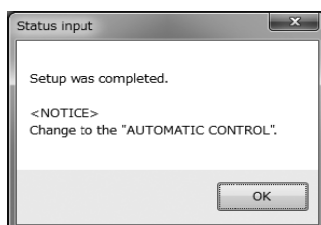

Fig.60
- ⑦ Click "OK" to change the settings to the selected values, and then click the "OK" button in the displayed message box (Fig. 60) to complete the setting process.